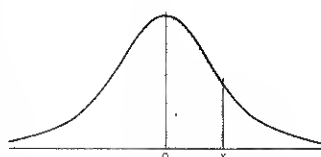

Fig. 12
Keep the first four lines of our testing program and add code to find the area between the mean (0) and the value of X read in by line 40 (Fig. 12).